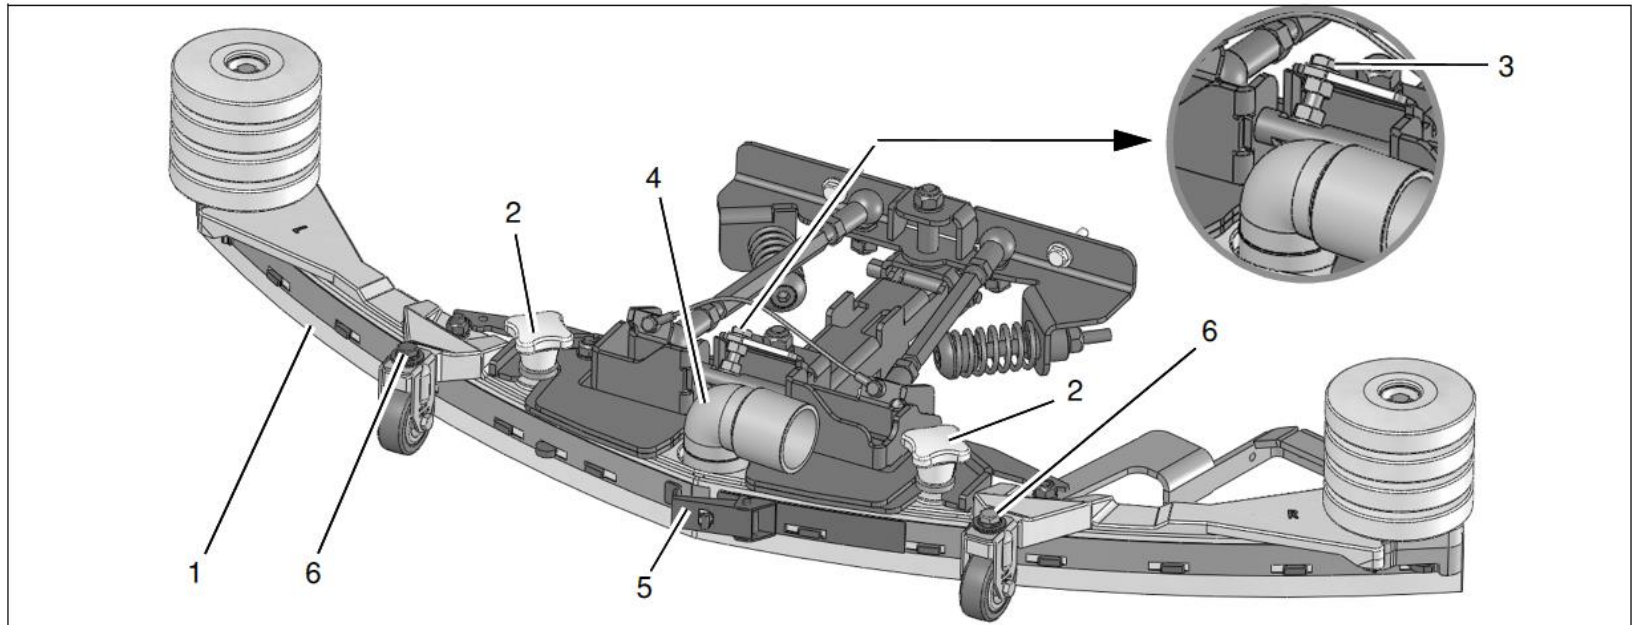
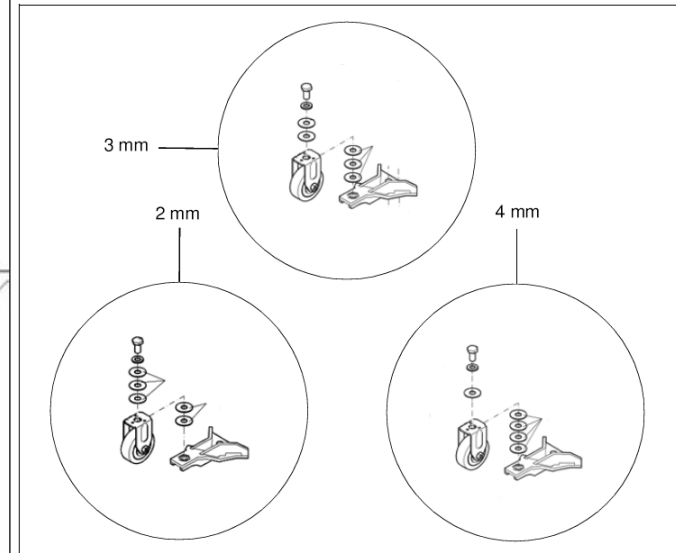

Fig. 7.1
Fig. 7.3
2. Loosen the conternut on the screw (Fig. 7.1/3) and use the conternut to adjust the squeegee so that the ends of the sealing strips just make contact with the floor.
The height adjustment is set to 3 mm at the factory. If, despite an optimum angle adjustment, streaks are produced, the distance between the rollers and floor must be adjusted by altering the number of washers (Fig. 7.1/6 / Fig. 7.3) on the holder.